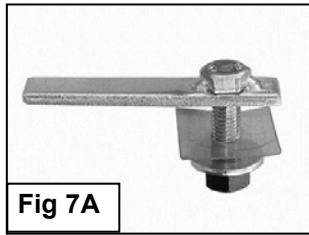
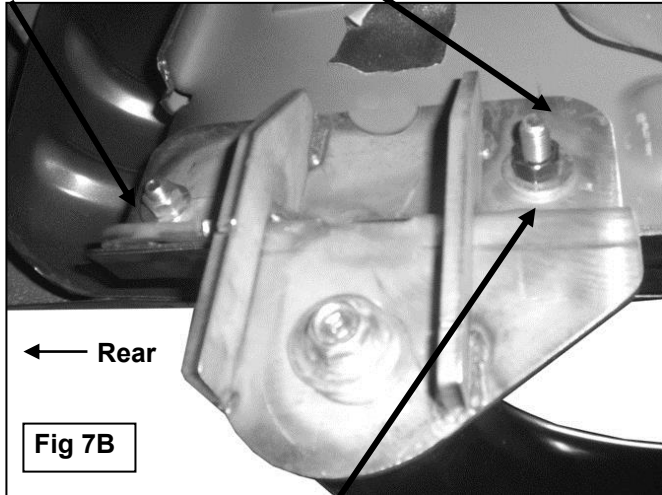

Fig 7A
Fig 7B
6. Move toward the rear of the vehicle and remove the tape covering the holes on the inner body panel. Select (1) 12mm Bolt Plate and thread (1) 12mm Plastic Retainer part way onto it, (**Figure 7A**). Insert the Bolt Plate and Retainer into the rear mounting hole, (**Figure 7B**), as described in **Step 3**.
7. Hang the driver side Rear Mounting Bracket from the Bolt Plate and secure it with the included (1) 12mm Lock Washer, (1) 12mm Flat Washer, and (1) 12mm Hex Nut, (**Figure 7B**). Insert (1) 10mm x 35mm Hex Bolt, (1) 10mm x 30mm OD Large Flat Washer with (1) 10mm Plastic Retainer into the hole at the rear of the Mounting Bracket from the outside-in, (**Figures 8A & 8B**). **NOTE:** The Plastic Retainer is intended to protect the outer painted surface of the body. Thread the Plastic Retainer onto the Hex Bolt so that it is between the 10mm Large Flat Washer and the body. Secure the Bracket with (1) 10mm Lock Washer, (1) 10mm x 30mm Large Flat Washer and (1) 10mm Hex Nut. Do not tighten hardware at this time.